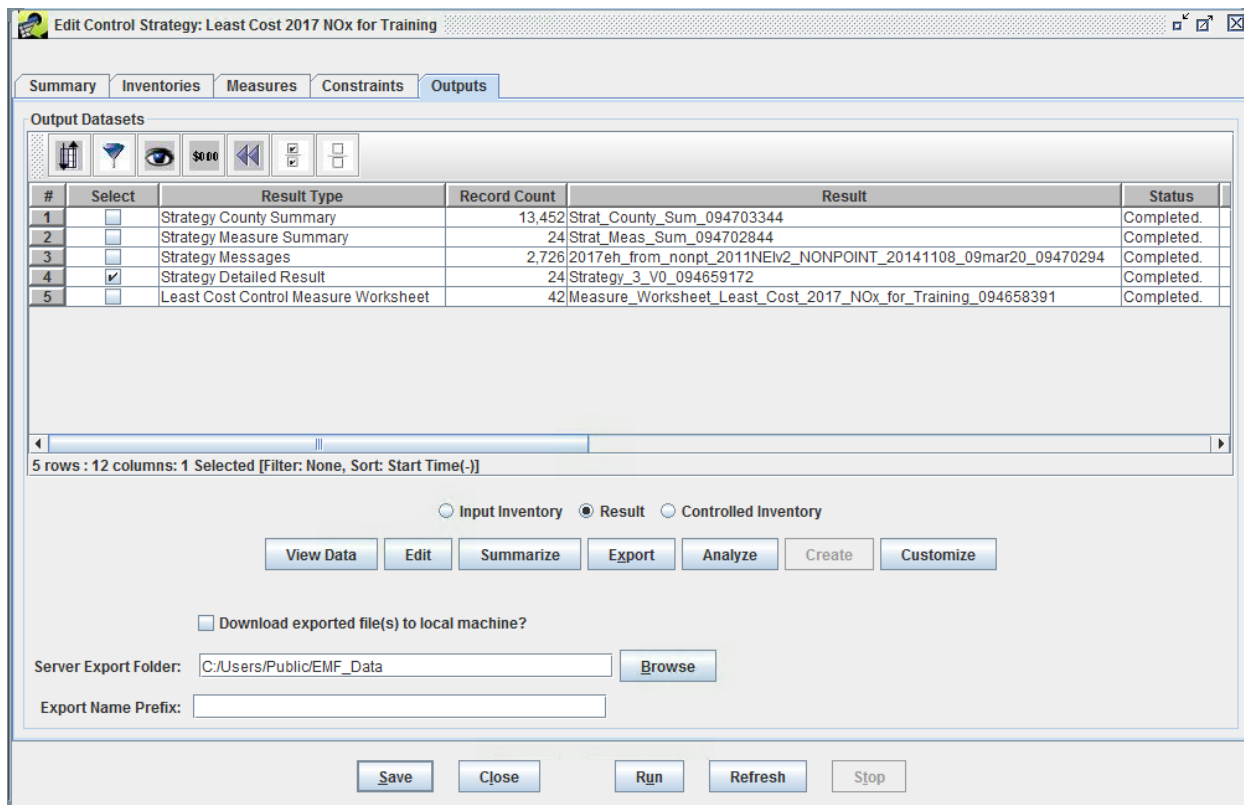

Figure 4.17: Outputs Tab of Edit Control Strategy Window for Least Cost Strategy
Step 5-3: List Control Strategy Run Outputs. Once the strategy run completes, click on the **Outputs** tab in the **Edit Control Strategy** window and then click **Refresh** at the bottom of the window to see the outputs from the run listed in the **Output Datasets** table (Figure 4.17 and Figure 4.18).